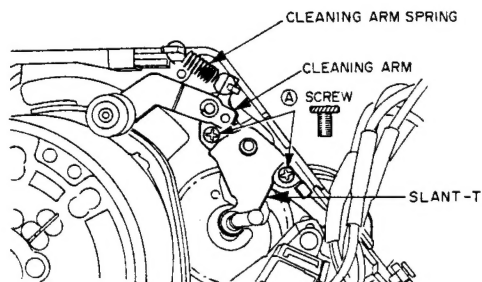

Fig. 3-29
2. Remove the two A screws and remove the SLANT-T as shown in Fig. 3-29.